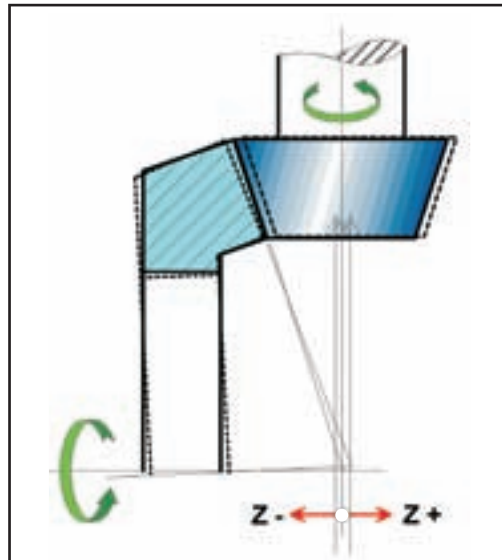
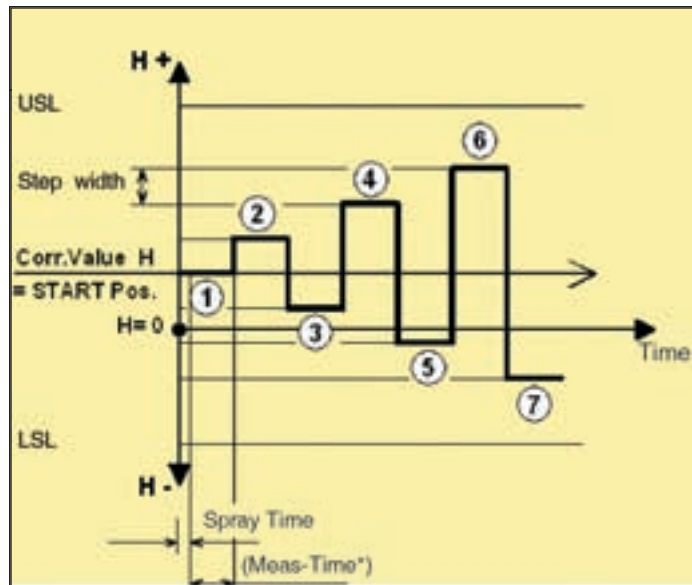

Figure 3—Principle of double-flank check on Oerlikon T60/L60.
Figure 8—Classic best position evaluation procedure.
If the uncertainty of the original position  $\vec{x}$  is assumed to have the form of a sphere, the uncertainty of the improved position  $\vec{x}'$  will take the form of an ellipsoid  $u_{res}$  during a profile measurement, as shown in Figure 3.
Figure 3—Reduction of the measurement uncertainty of the CMM  $u_{CMM}$  via additional length information (measurement uncertainty  $u_{TI}$ ) to the resulting measurement uncertainty of the uncertainty ellipsoid  $u_{res}$ .
*Noise check, automatic (air noise).* An air noise check is historically the logical step from judging the gear noise by listening to it with the human ear to judging it by using a microphone and setting the tolerance at a predefined noise level, typically a dB(A) rating. This evaluation method has not made a real breakthrough and has no real significance in testing and evaluating the running behavior of spiral bevel and hypoid gear sets.
*Double-flank check.* Double-flank checks in parallel shaft gear applications are usually performed by mating a member with a master gear or pinion and recording the axial deviations while running the set in a no-backlash situation. With spiral bevel gears, which are typically mated during the lapping process, this opportunity is not available. Instead the sets are double-flank tested in pairs as they are assembled (see Fig. 3).
The typical approach to check the running position plus a wider range of possible assembly positions is to successively check a set number of individual positions for the pinion cone setting, followed by an individual evaluation of each position (see Fig. 8). The result for each individual setting position is an evaluation as mentioned in Figure 3. Application of this strategy is increasing the checking times for each individual position. Trying to optimize checking times consequently means reducing the amount of positions to be checked and thereby sacrificing the resolution over the entire range.